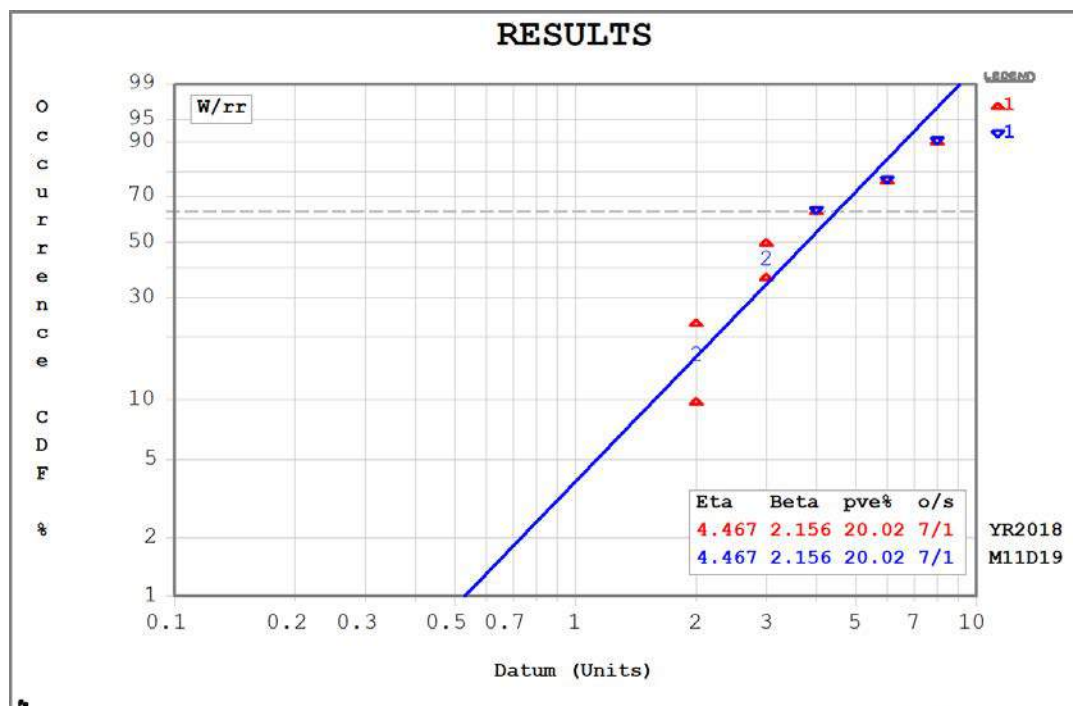

Figure 4: Weibull Plot Using “x2” After Data Values “2” and “3” for Set #2
| Figure 4: Weibull Plot Using “x2” After Data Values “2” and “3” for Set #2..... | 9 |
- D. Select the plot to enlarge. Your plot should resemble Figure 4 below. Same solution for both data sets! A shortcut way to enter repeated values is with the frequency value after the separator “x”. Select on the plot or use the <ESC> key to return to the Main Screen.